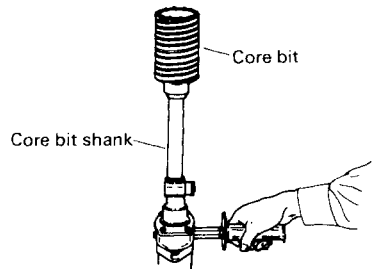

Fig. 16
3. How to dismount the core bit (Fig. 16)